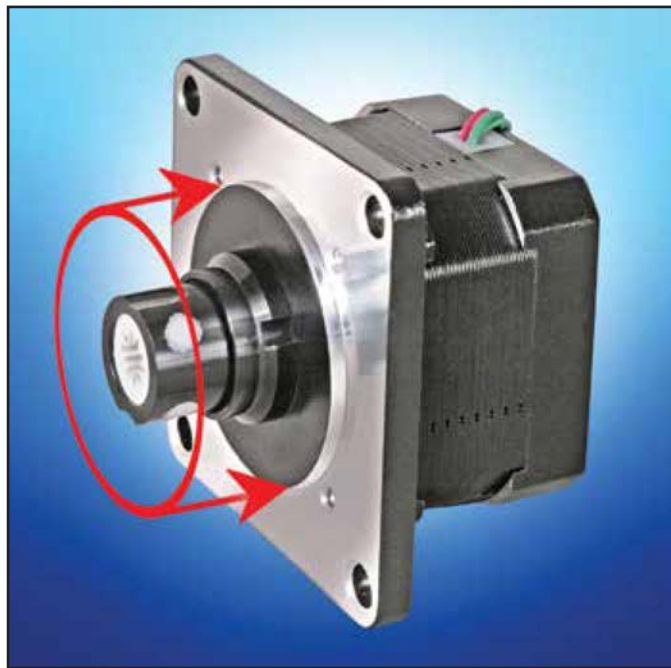

Figure 6 Locating boss feature for concentric mounting.
2. Mounting of the actuator can play a critical role in overall system performance in many applications. The hybrid actuators have a locating boss on the front-end bell that is concentric to the motor bearings, thus allowing better mounting to center the actuator in the assembly (Fig. 6).